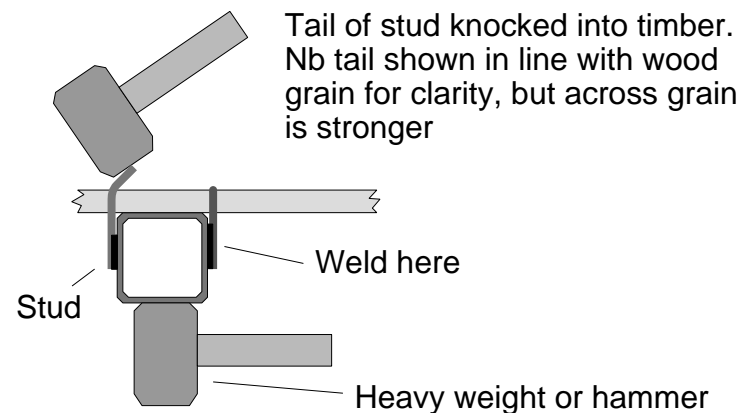

Figure 6: fixing planks to frame with clenched studs.
- 6) Now you can fit the side and the bottom planks to the end frames and then the middle frame. Figure 6 shows how to position these studs and how they can be tightened with a hammer and a weight or another hammer.